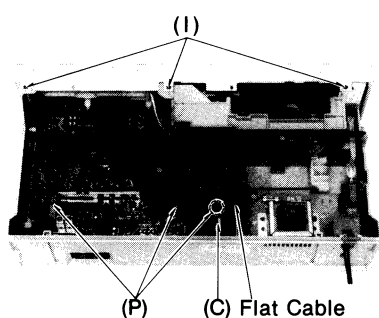
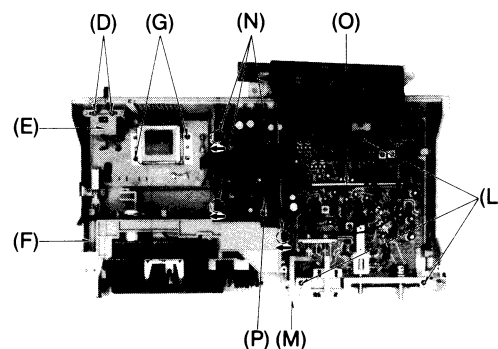
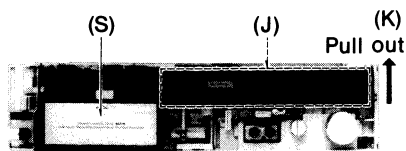
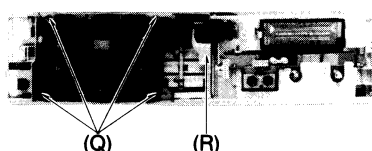

Fig. 3
Fig. 4
Fig. 5
Fig. 6
2. Turning the printed circuit board over as shown in Fig. 3, scrape the copper pattern surface near the through-holes until the copper foil surface can be exposed.
B Head azimuth adjustment Condition: • Playback mode Equipment • VTVM • Oscilloscope • Test tape (azimuth) ... QZZCFM	L-ch/R-ch output balance adjustment 1. Make connections as shown in fig. 3.  Fig. 3 2. Playback the 8kHz signal from the test tape (QZZCFM). Adjust screw (B) in fig. 4 for maximum output L-ch and R-ch levels. When the output levels of L-ch and R-ch are not at maximum at the same time, readjust as follows. 3. Turn the screw shown in fig. 4 to find angles A and C (points where peak output levels for left and right channels are obtained). Then, locate the angle B between angles A and C, i.e., a point where L-ch and R-ch output levels come together at maximum. (Refer to figs. 4 and 5.) L-ch/R-ch phase adjustment 4. Make connections as shown in fig. 6. 5. Playback the 8kHz signal from the test tape (QZZCFM). Adjust screw (B) shown in fig. 4 so that pointers of the two VTVMs swing to maximum and a waveform as illustrated in fig. 7 is obtained on the oscilloscope.  Fig. 4  Fig. 5  Fig. 6  Fig. 7
④ Playback frequency response Condition: • Playback mode • Tape selector ... Normal position Equipment: • VTVM • Oscilloscope • Test tape ... QZZCFM	1. Test equipment connection is shown in fig. 3. 2. Place UNIT into playback mode. 3. Playback the frequency response test tape (QZZCFM). 4. Measure output level at 315Hz, 12.5kHz, 8kHz, 4kHz, 1kHz, 250Hz, 125Hz and 63Hz, and compare each output level with the standard frequency 315Hz, at LINE OUT. 5. Make measurement for both channels. 6. Make sure that the measured value is within the range specified in the frequency response chart (shown in fig. 9). Playback frequency response chart  Fig. 9
⑤ Playback gain Condition: • Playback mode • Tape selector ... Normal position Equipment: • VTVM • Oscilloscope • Test tape ... QZZCFM	1. Test equipment connection is shown in fig. 3. 2. Playback standard recording level portion on test tape (QZZCFM 315Hz), and using VTVM measure the output level at LINE OUT. 3. Make measurement for both channels. Standard value: 0.4V ± 1 dB [around 0.42V: at test points TP3 (L-CH) and TP4 (R-CH)] Adjustment 1. If measured value is not within standard, adjust VR1 (L-CH), VR2 (R-CH) (See fig. 1 on page 4). 2. After adjustment, check "Playback frequency response" again.